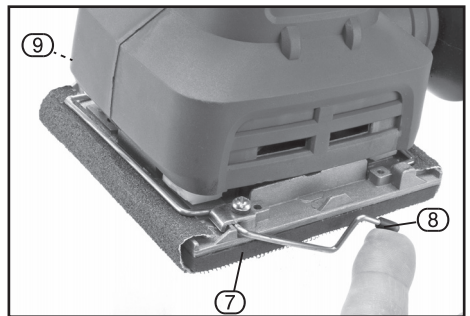

FIG.2
8.2 CONVENTIONAL ABRASIVE SHEET INSTALLATION / REPLACEMENT - FIGS. 2 - 3
8.3 HOOK AND LOOP ABRASIVE SHEET INSTALLATION / REPLACEMENT – FIG. 2